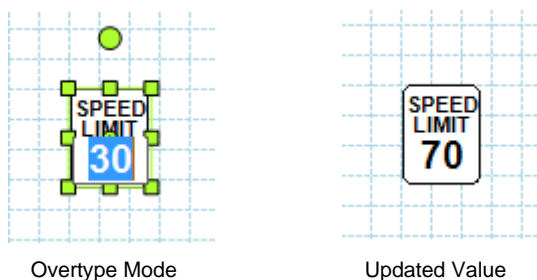

Figure 117. Replacing Symbol Text
1. Drag the symbol to the drawing page, as shown in Figure 117.
2. Double-click the symbol number text to change to overtype mode and enter text, as shown in Figure 117.